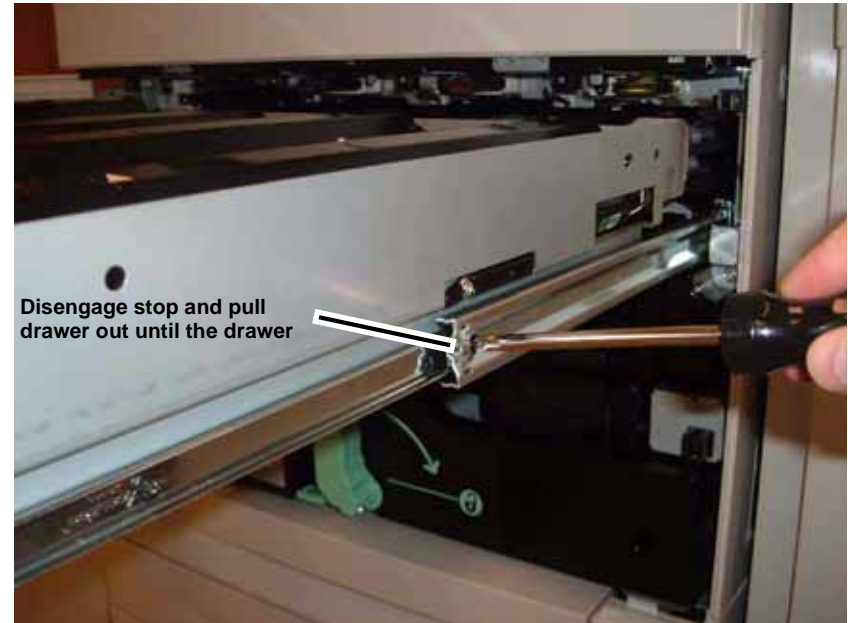

Figure 2 Disengaging right first stop
7. Disengage first stop on the right side (Figure 2).